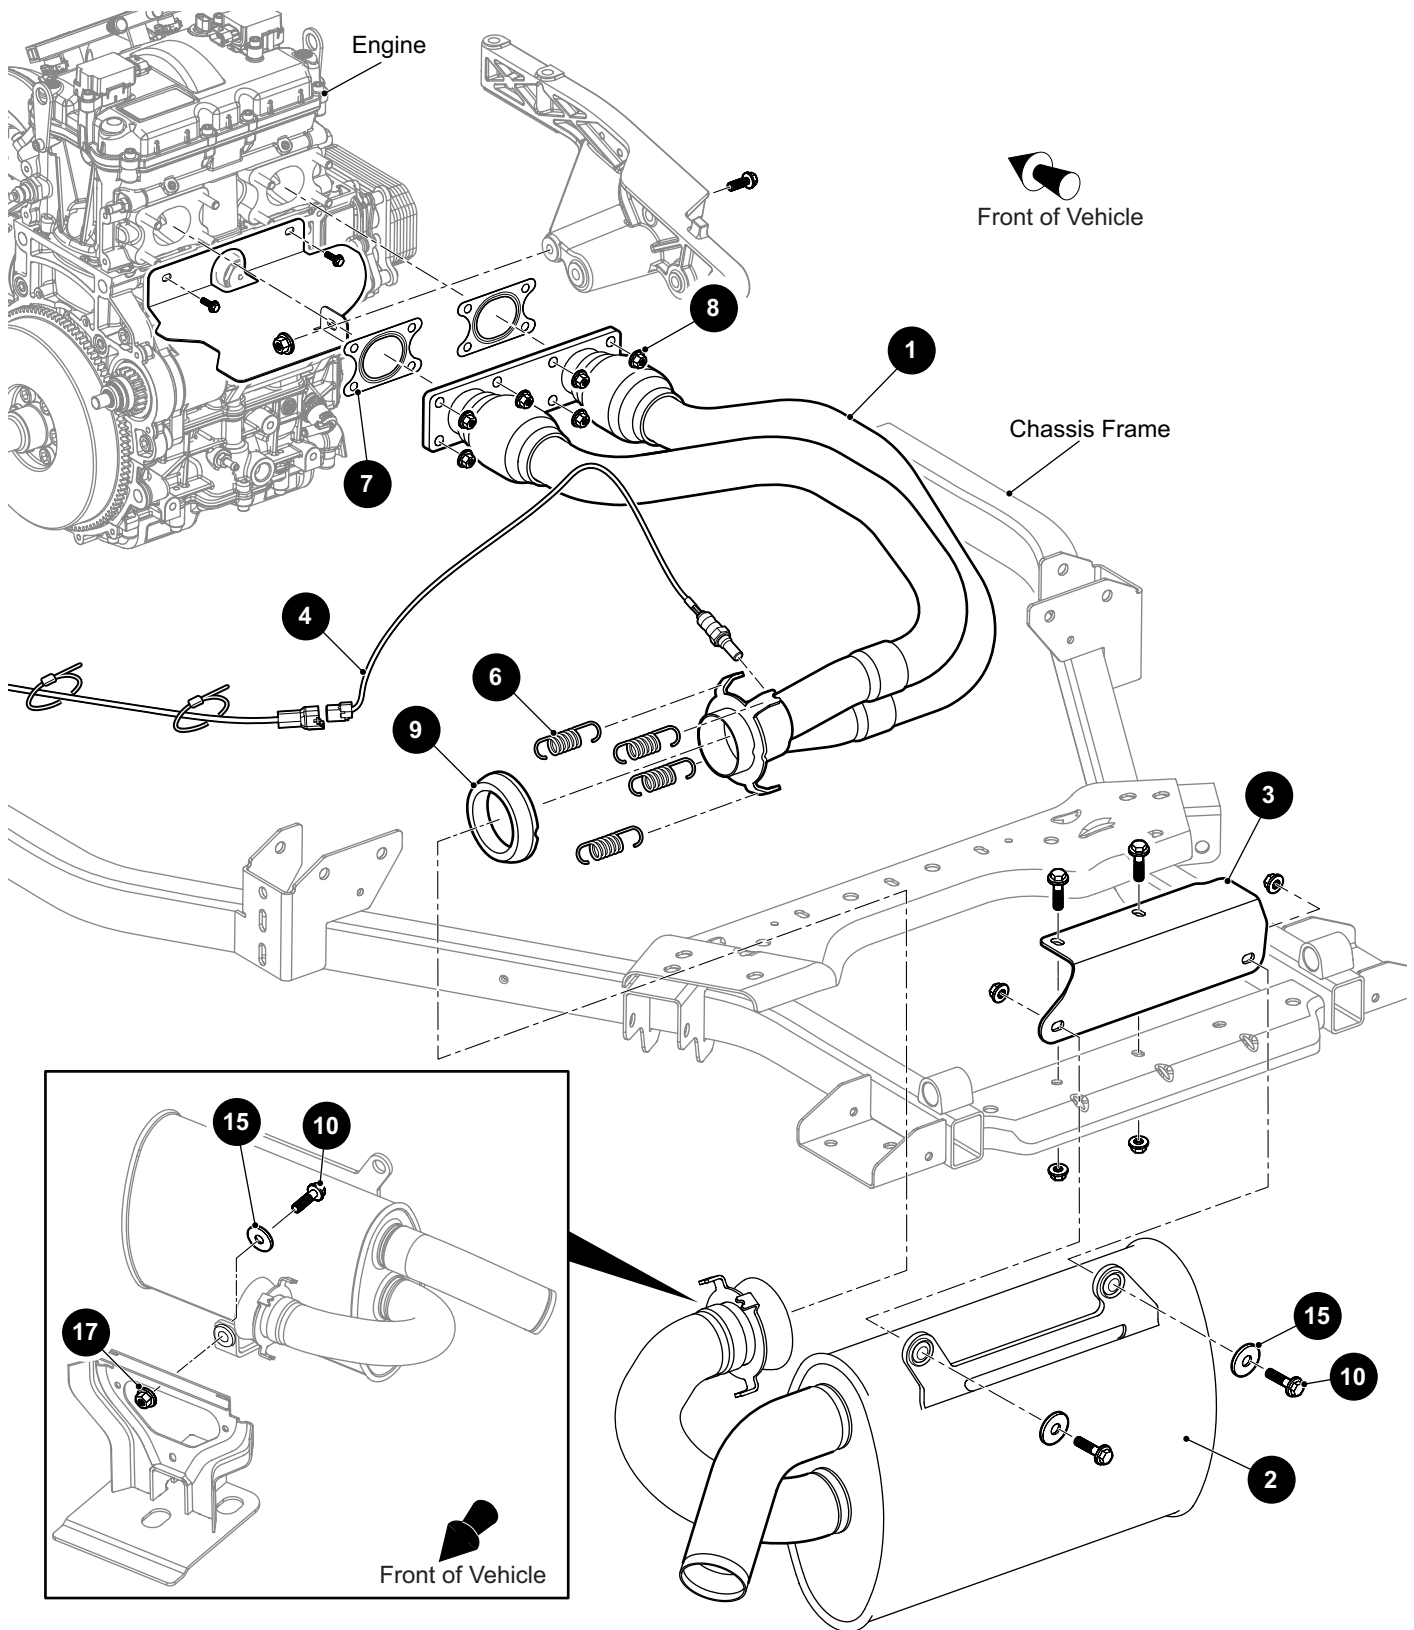

Fig. 15 Exhaust System
2. Remove the four springs (6) that secure the muffler (2) to the exhaust header (1) (Ref. Fig. 15).
3. Remove the bolt (10), washer (15) and nut (17) that secure the muffler to the rear of the frame.
4. Remove the bolts (10), washers (15) and bolts (17) that secure the muffler (2) to the support bracket (3). Remove the muffler from the vehicle.
5. Disconnect the oxygen sensor (4).
6. Remove the nuts (8) that secure the exhaust header (1) to the engine. Remove the manifold and gaskets (7) from the engine.